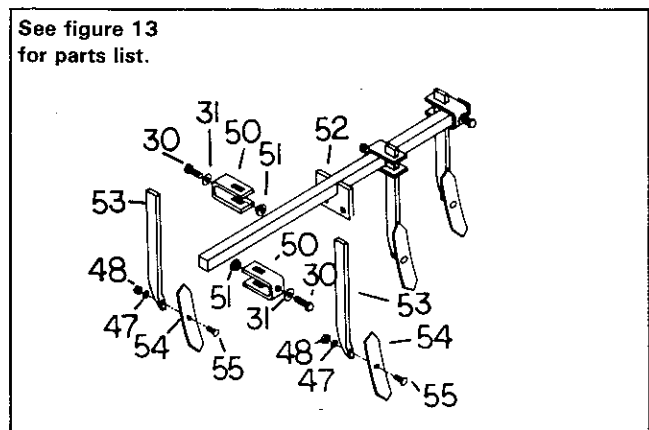

Figure 2A. Cultivator
1. Attach a shovel (54, figure 2A) to each of the five cultivator shanks (53) with 3/8 x 1-1/2" plow bolts (55), 3/8" lockwashers (47) and 3/8" nuts (48).
2. Install four of the shank assemblies onto the cross bar (52) with the clamps (50), bolts (30), washers (31) and flange nuts (51). Be sure to install two of the shanks to the front of the crossbar, and two to the rear, as shown. After assembly, the nuts (5) will be trapped in clamp. The washers (31) will be loose. Their purpose is to keep the assembly together when the clamp is not installed on the cultivator.